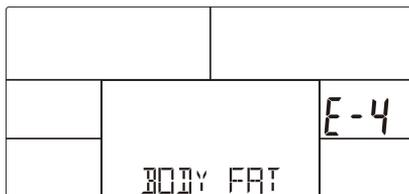

FIG 27
*E-4 -- Body fat percentage and body mass index below 5 or over 50 (Figure 27).